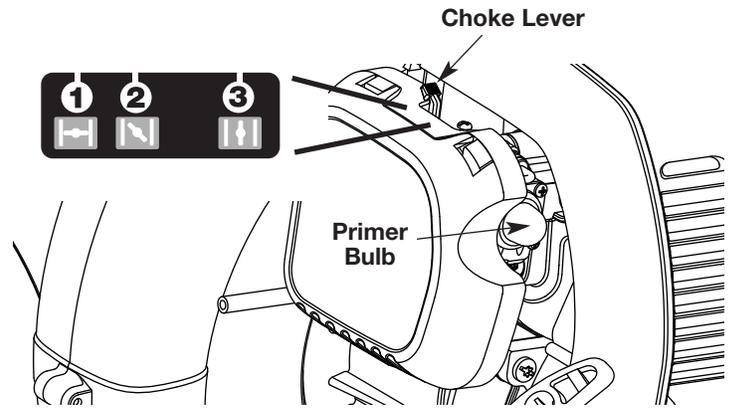
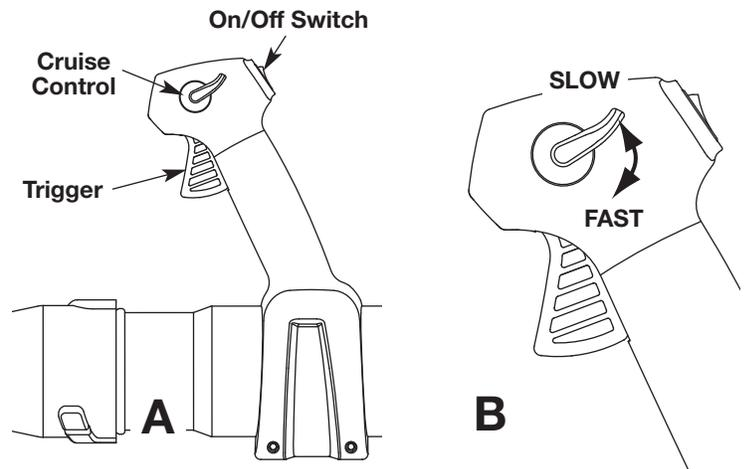
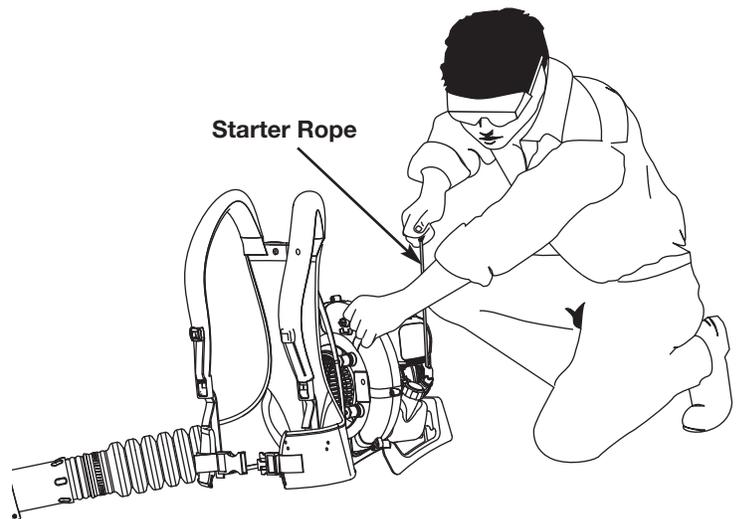

Fig. 14
Fig. 15
Fig. 16
WARNING: Avoid accidental starting. Make sure you are in the starting position when pulling the starter rope (Fig. 16). To avoid serious injury, the operator and unit must be in a stable position while starting. To avoid serious personal injury, make sure that the blower tube is locked in place or firmly installed.
3. Fully press and release the primer bulb **10** times, slowly. Some amount of fuel should be visible in the primer bulb (Fig. 14). If fuel cannot be seen in the bulb, press and release the bulb until fuel is visible.
4. Move the choke lever to **Position 1** (Fig. 14).
NOTE: The unit should be started in idle. Do not squeeze the trigger until step 8 (Fig. 15, A).
5. **Do not squeeze the trigger.** Crouch in the starting position (Fig. 16). Pull the starter rope **5** times in a controlled motion.
6. Move the choke lever to **Position 2** (Fig. 14).
8. Squeeze and hold the trigger, or press down the cruise control (Fig. 15, A), and allow the engine to warm up for 30 to 60 seconds.
9. **Continue to squeeze the trigger.** Move the choke lever to **Position 3** (Fig. 14) and continue warming the engine for an additional 60 seconds. During this time the unit may be used.
2. Press and hold the On/Off switch in the OFF (O) position until the unit comes to a complete stop (Fig. 15, A).
1. Once the engine has started and warmed up, squeeze the trigger to accelerate the unit as needed (Fig. 15, A).
2. For longer periods of operation and to eliminate possible finger fatigue, move the cruise control toward the FAST position to incrementally increase or maintain the unit's engine speed (Fig. 15, B). When the cruise control is pressed, the trigger will recede into the handle.
3. To decrease engine speed, move the cruise control to the SLOW position and the trigger will return to idle position (Fig. 15, B).
NOTE: The unit should be started in idle. Do not squeeze the trigger until step 10 (Fig. 15, A).
5. Crouch in the starting position (Fig. 16). Insert the electric starter or Power Start Bit™ into the back of the unit (Fig. 32). Refer to the Operation section of the Electric Starter or Power Start Bit™ operator's manual.
6. **Do not squeeze the trigger.** Press and hold the electric starter or drill's ON (I) button for 2 seconds.
7. Move the choke lever to **Position 2** (Fig. 14).
8. **Do not squeeze the trigger.** Press and hold the electric starter or drill's ON (I) button for 2-second intervals until the unit starts.
10. Squeeze and hold the trigger, or press down the cruise control (Fig. 15, A), and allow the engine to warm up for 30 to 60 seconds.
11. **Continue to squeeze the trigger.** Move the choke lever to **Position 3** (Fig. 14) and continue warming the engine for an additional 60 seconds. During this time the unit may be used.
- Use the cruise control (Fig. 15) to keep the trigger depressed while operating to make continuous operation easier.